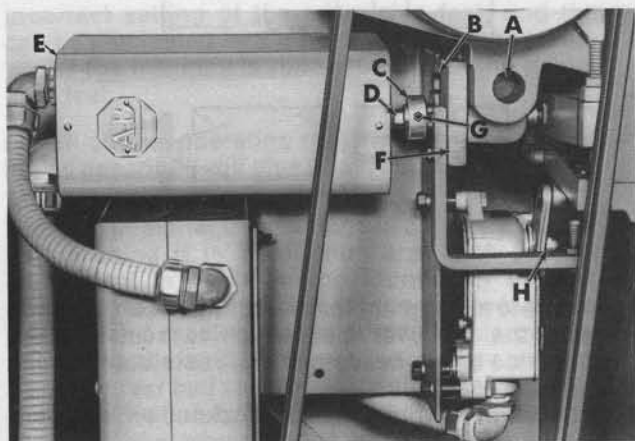
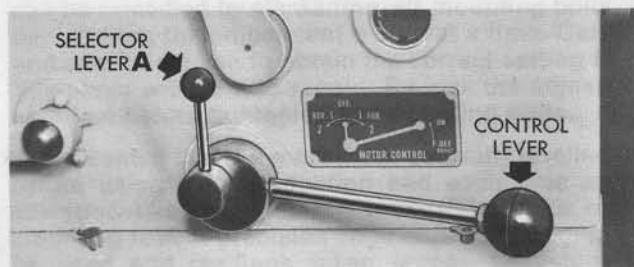

Figure 1
Figure 3
1. Before installing switch panel assembly turn the reversing switch shaft (D, fig. 1) clockwise as far as it will go, and then back two "clicks" — the switch is now in the off position.
3. Slide drum switch shaft (D, fig. 1) with switch panel into coupling (C), then align mounting bar (A) with holes in mounting plate (F) and secure in place with two 5/16-18 x 1-3/4 hex cap screws (B). DO NOT TIGHTEN SECURELY.
4. Make sure selector lever (A, fig. 3) rotates freely. If binding condition occurs, loosen mounting screws (B, fig. 1) and realign, then tighten screws securely.
12. If spindle rotation does not correspond to selector switch notation, interchange any two line leads. If the motor does not start when the control lever is in the "up" or "on" position, or stop in the "down" position, adjust the travel of the limit switch arm on the switch lever by loosening the adjusting nut (H, fig. 1). If the brake lever at the rear of the headstock jams on the threaded end of the brake link, adjust set screw in the bracket on the switch panel to limit travel of the switch lever.